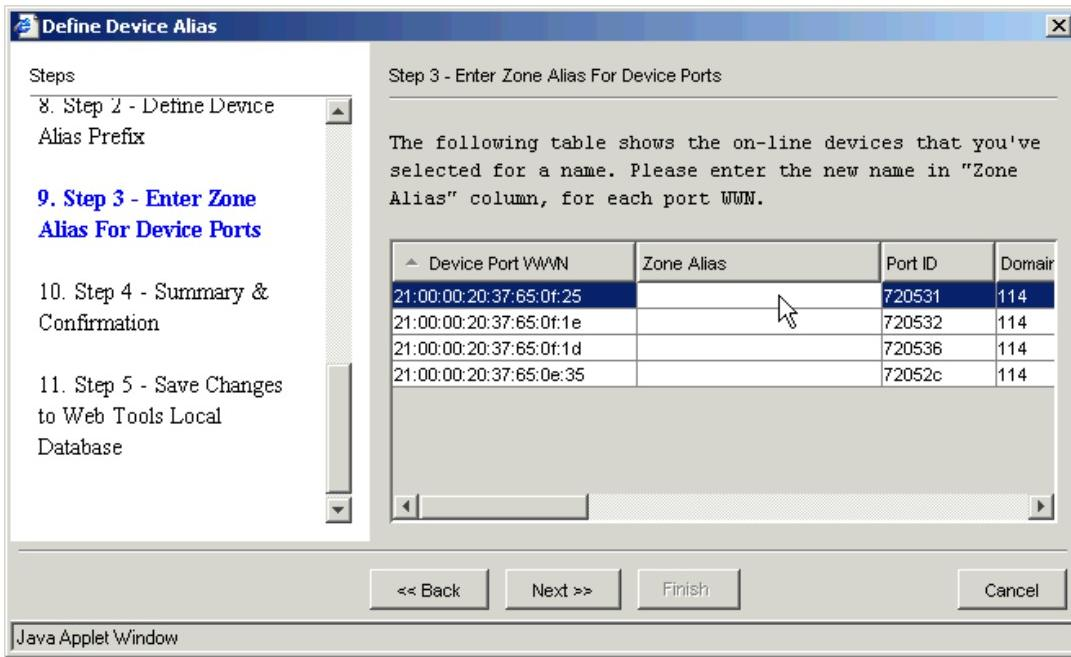

Figure 33 Entering a zone alias in the Define Device Alias wizard
**NOTE:** To enter a zone alias name, double-click the **Zone Alias** box for each device, as shown in Figure 33, and enter the name.